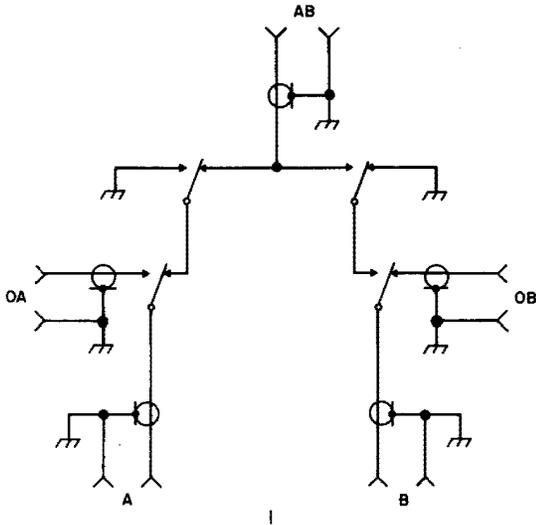
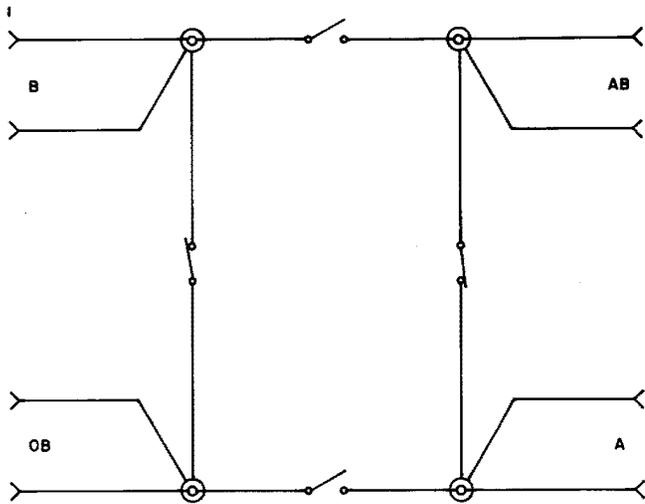

Fig. 5—223A Coaxial Switch Schematic (Shown in Normal Released Condition)
Fig. 6—223E Coaxial Switch Schematic (Shown in Normal Released Condition)
1.04 There are two separate transmission paths through the switches. In all switches, with the switch normal, the paths are path A to AB and path B to OB. With the switches operated, the paths for the 223A, 223B, and 223C switches are path A to OA and path B to AB. See Fig. 5. For the 223D and 223E switches, these paths are path A to OB and path B to AB. See Fig. 6.